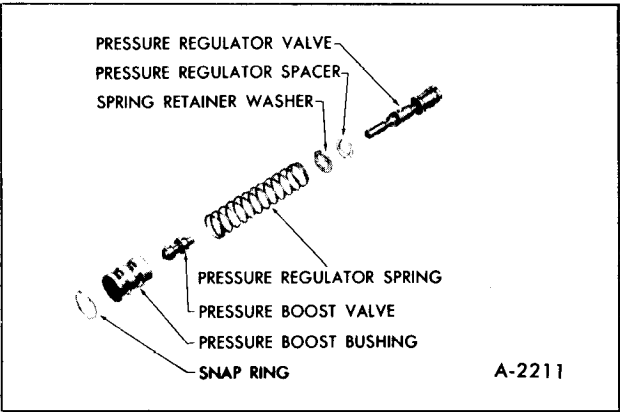

Figure 94-Pressure Regulator Valve
1. Install spring retainer on pressure regulator spring. Also install spacers if previously removed, Figure 94.